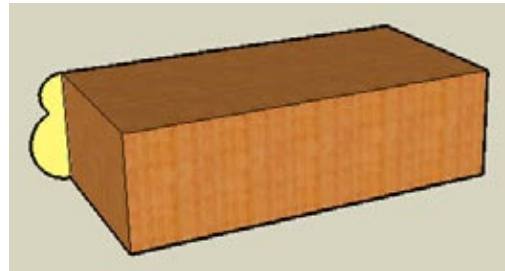

Figure 4-14
Consider a model of a box with a Follow Me face (shown in yellow in Figure 4-14) along one edge.
1. Start with a model of a table top. Along one edge, add a rounding face (shown in Figure 4-14 in yellow) that will be pulled around the table top. You can create your model from scratch, or download my Table Top model from the 3D Warehouse.